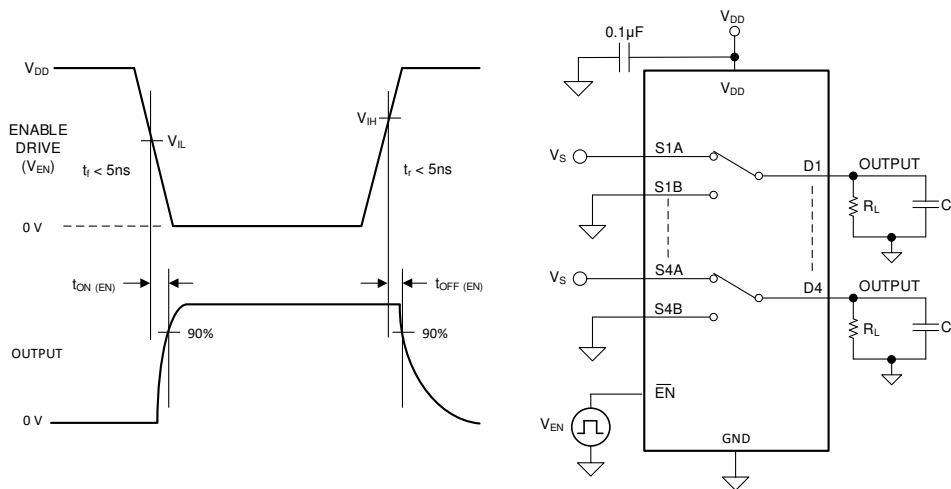

Figure 7-6. $t_{\text{ON (EN)}}$ and $t_{\text{OFF (EN)}}$ Time Measurement Setup
7.6 $t_{\text{ON (EN)}}$ and $t_{\text{OFF (EN)}}$ Time
The $t_{\text{ON (EN)}}$ time is defined as the time taken by the output of the device to rise to 90% after the enable has fallen past the logic threshold. The 90% measurement is used to provide the timing of the device being enabled in the system. Figure 7-6 shows the setup used to measure the enable time, denoted by the symbol $t_{\text{ON (EN)}}$.
The $t_{\text{OFF (EN)}}$ time is defined as the time taken by the output of the device to fall to 90% after the enable has fallen past the logic threshold. The 90% measurement is used to provide the timing of the device being disabled in the system. Figure 7-6 shows the setup used to measure enable time, denoted by the symbol $t_{\text{OFF (EN)}}$.